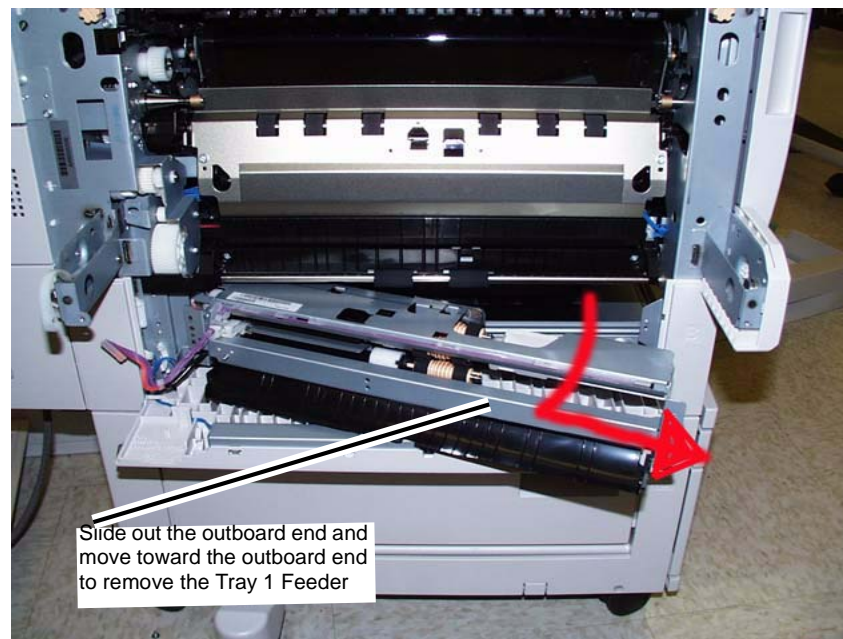

Figure 4 Removing the Tray 1 Feeder
9. Move the outboard end of the Tray 1 Feeder toward the left of the machine. Remove the Tray 1 Feeder from the machine. (Figure 4)